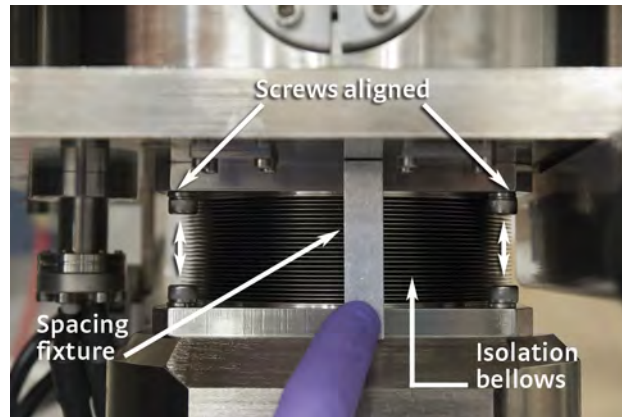

FIGURE 3-12 Proper alignment as shown: bellows straight, screws aligned and spacer in place
7. Place the spacing fixture as shown in FIGURE 3-12 between the top vacuum chamber and the CCR vacuum shroud. This will be used to set the proper 58 mm (2.3 in) spacing between the bottom of the vacuum chamber and the top of the vacuum shroud.
Pay attention to the appearance of the isolation bellows and the screws that secure it. For proper alignment, the bellows should be straight, and should not appear uneven. The opposing screws should be aligned directly above and below each other. At the correct 58 mm height spacing, none of the electrical cables on the bottom of the vacuum chamber will touch the top of the vacuum shroud (FIGURE 3-12).